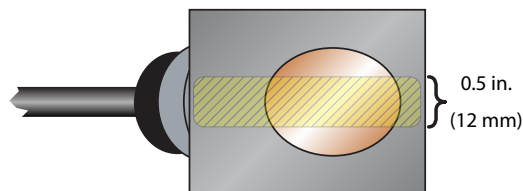

Figure 8: Application of couplant
3. Place a single bead of couplant, approximately 1/2 inch (12 mm) thick, on the flat face of the transducer. See *Figure 8*. Couplant is provided with the transducers. Generally, a silicone-based grease is used as an acoustic couplant, but any good quality grease-like substance that is rated to not flow at the operating temperature of the pipe is acceptable. For pipe surface temperature over 130° F (55° C), use high-temperature paste (P.N. D002-2011-012) or non-silicone paste (P.N. D002-2011-009).
1. Place a single bead of couplant, approximately 1/2 inch (12 mm) thick, on the flat face of the transducers. See *Figure 8 on page 8*.
3. Place a single bead of couplant, approximately 1/2 inch (12 mm) thick, on the flat face of the transducers. See *Figure 8 on page 8*.